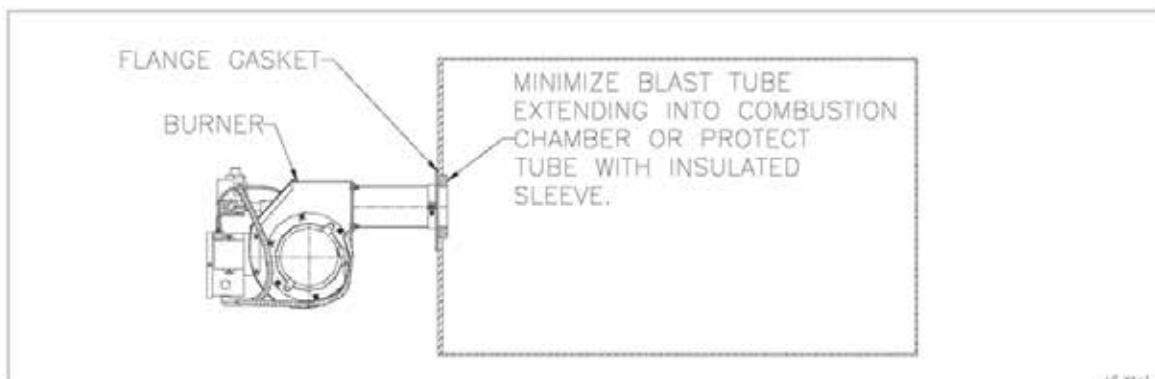

Figure 1: Mounting in Heat Exchanger
- 4.3 The burner can be mounted through a heat exchanger end wall or in the base of the boiler – **see Figures 1 and 2**. The opening for the burner blast tube should not be less than 4 ¼ inches in diameter to allow easy removal of the burner. The gap between the burner opening and the blast tube should be sealed with non-asbestos, high temperature rope or Ka-O-Wool. Where a new or replacement combustion chamber lining is to be used, the chamber is to be built using 2300 degree F insulating firebrick or ceramic fiber blanket.